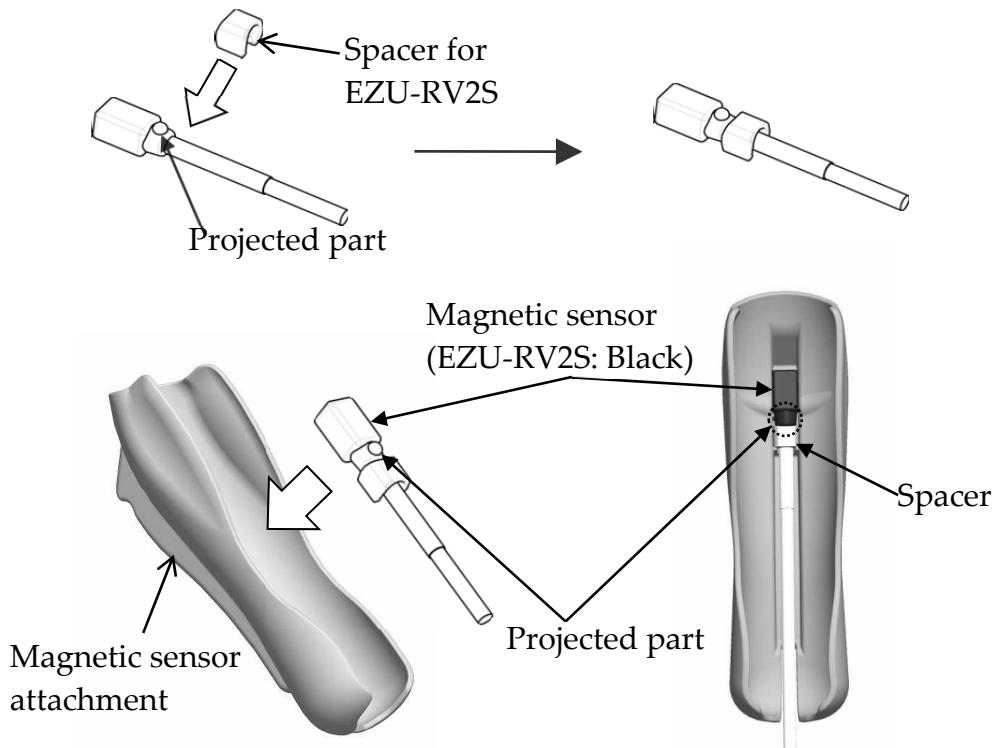

Fig. 8 How to attach the Magnetic sensor
- 2) Attach the Spacer for EZU-RV2S to the magnetic sensor as shown in the top of Fig.8.
- 3) Insert the magnetic sensor into the Magnetic Sensor Attachment in the correct direction as shown in the bottom of Fig. 8.